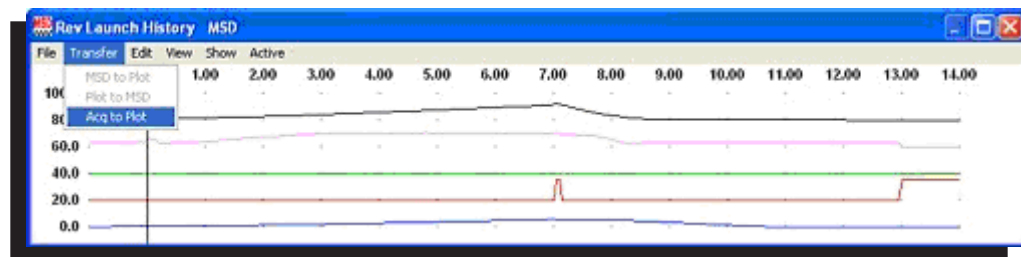

Figure 7 Opening an Acquisition File.
- Select Transfer from the Rev Launch History window and click on Acquire to Plot (Figure 7).